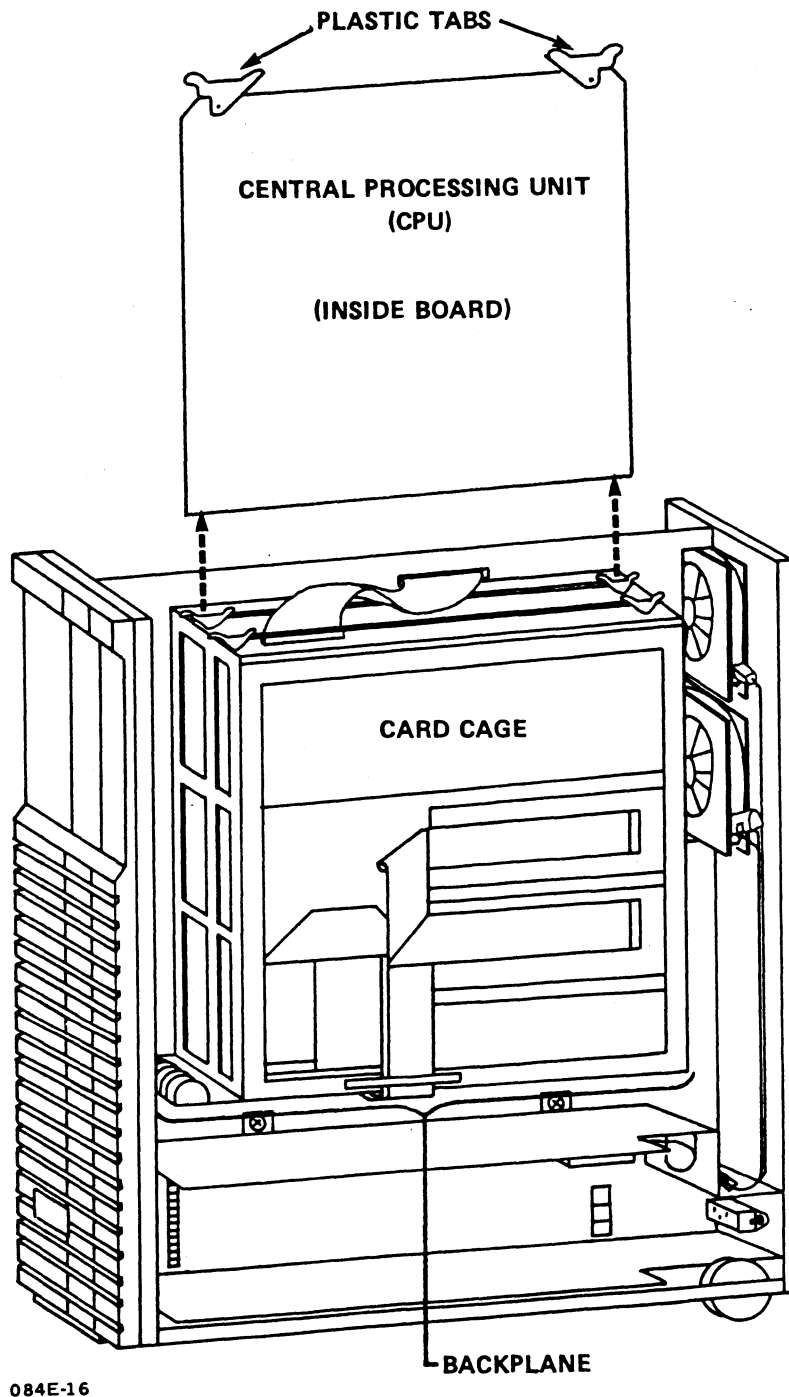

Figure 2-5. Removing the CPU from the Card Cage
6. Remove the central processing unit (CPU) from the card cage by grasping the plastic tabs that secure it to the card cage, pulling up to release it from the backplane, and sliding it out of the guide rails (see Figure 2-5).